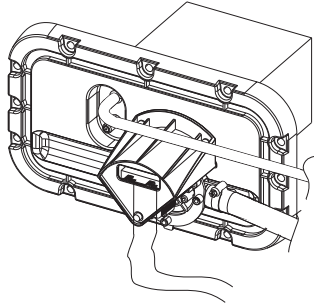

Fig. 1.c
1. remove the cover of the machine (hydraulic side) unscrewing the screws (Fig. 1.a);
2. remove the steam pipe from the upper pipe union of the cylinder (Fig. 1.b);